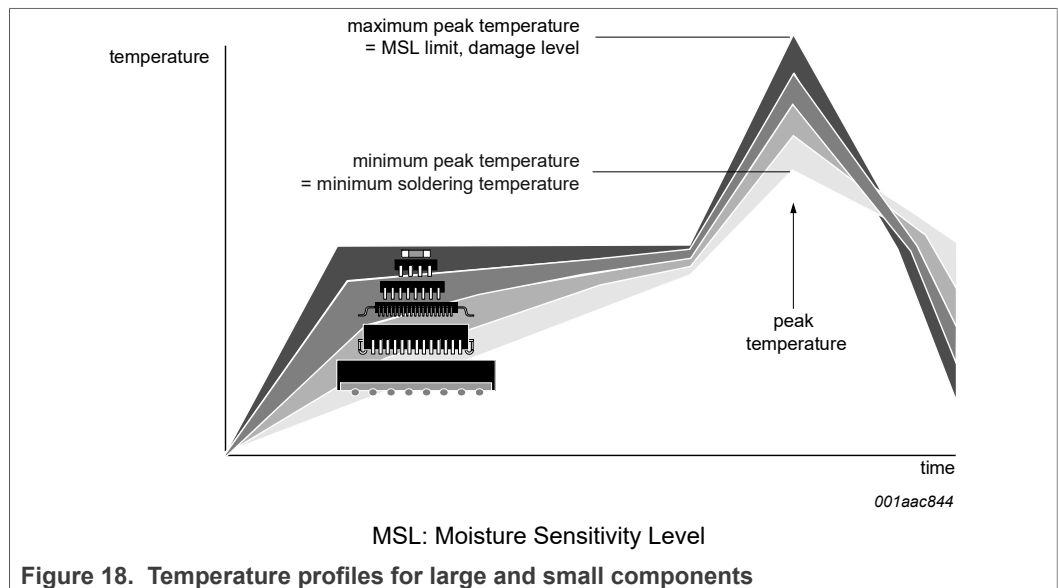

Figure 18. Temperature profiles for large and small components
- Lead-free versus SnPb soldering; note that a lead-free reflow process usually leads to higher minimum peak temperatures (see Figure 18) than a SnPb process, thus reducing the process window
Studies have shown that small packages reach higher temperatures during reflow soldering, see Figure 18.